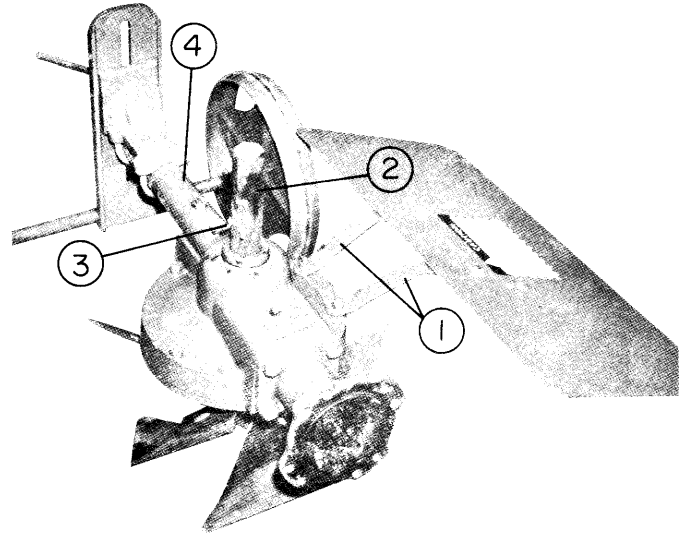

Fig. 2
3. Remove the two bolts securing the depth wheel assembly to the drive and remove the assembly. See fig. 2.